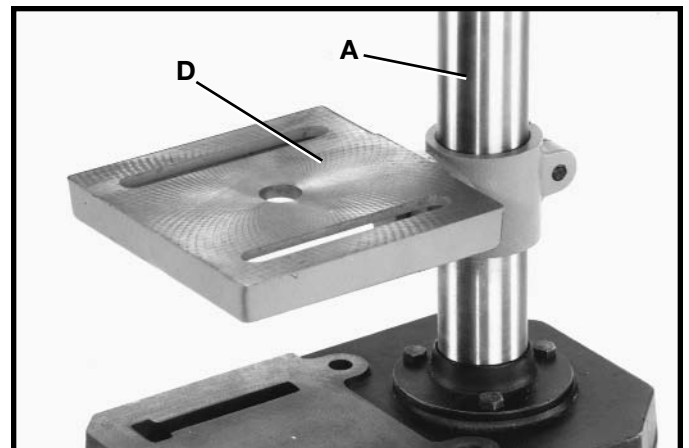

Fig. 5
2. Assemble the table (D) Fig. 5, to drill press column (A) as shown.